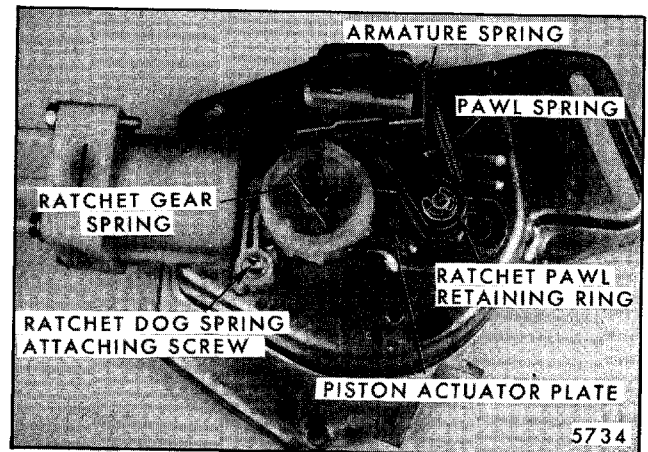

Fig. 2-160-Ratchet Pawl
- a. Follow step a under item 3.
- b. Remove dog spring assembly (Fig. 2-160).
- c. Remove ratchet pawl retaining ring, disconnect pawl spring and slide pawl off cam-follower shaft (Fig. 2-160).
- d. Disconnect relay armature spring and remove armature (Fig. 2-160).